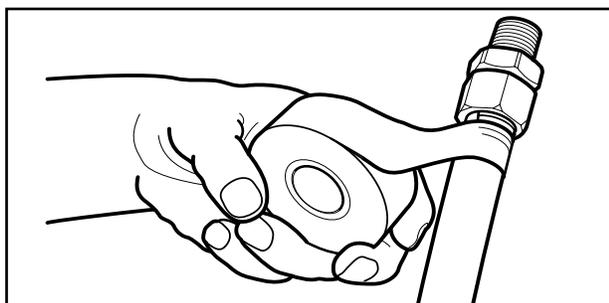

Figure 4-3A Wrapping with self bonding silicone tape - begin on jacket.
- When installed outdoors, the plastic jacketing shall remain intact as much as practical for the given installation. Any portions of exposed stainless steel shall be wrapped with self bonding silicone tape sealing the fitting connection to prevent later corrosive attack by acid wash or chloride based compounds. (See Figures 4-3A & 4-3B)
- When **TracPipe** is installed in a swimming pool mechanical room or exposed to a corrosive environment which may be harmful to the tubing, all exposed portions of the stainless steel tubing shall be wrapped with self-bonding tape. (See Figures 4-3A & 4-3B)